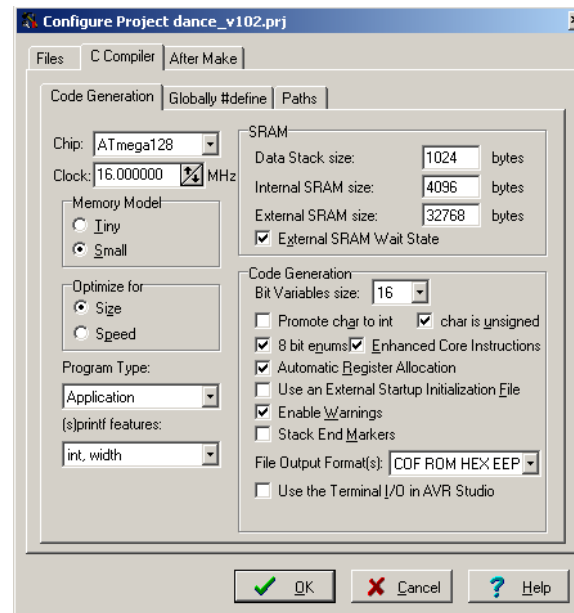

Figure 2: Compiler Settings
3. Figure 2 shows a properly configured compiler screen. All values are specific for the AVR board you have. This configuration will not necessarily work on other chips or boards. The part is the ATmega128, running at 16Mhz. You are using a 'small' memory model with 32768 bytes of external RAM. The RAM requires a wait state. Everything else is left in its default.